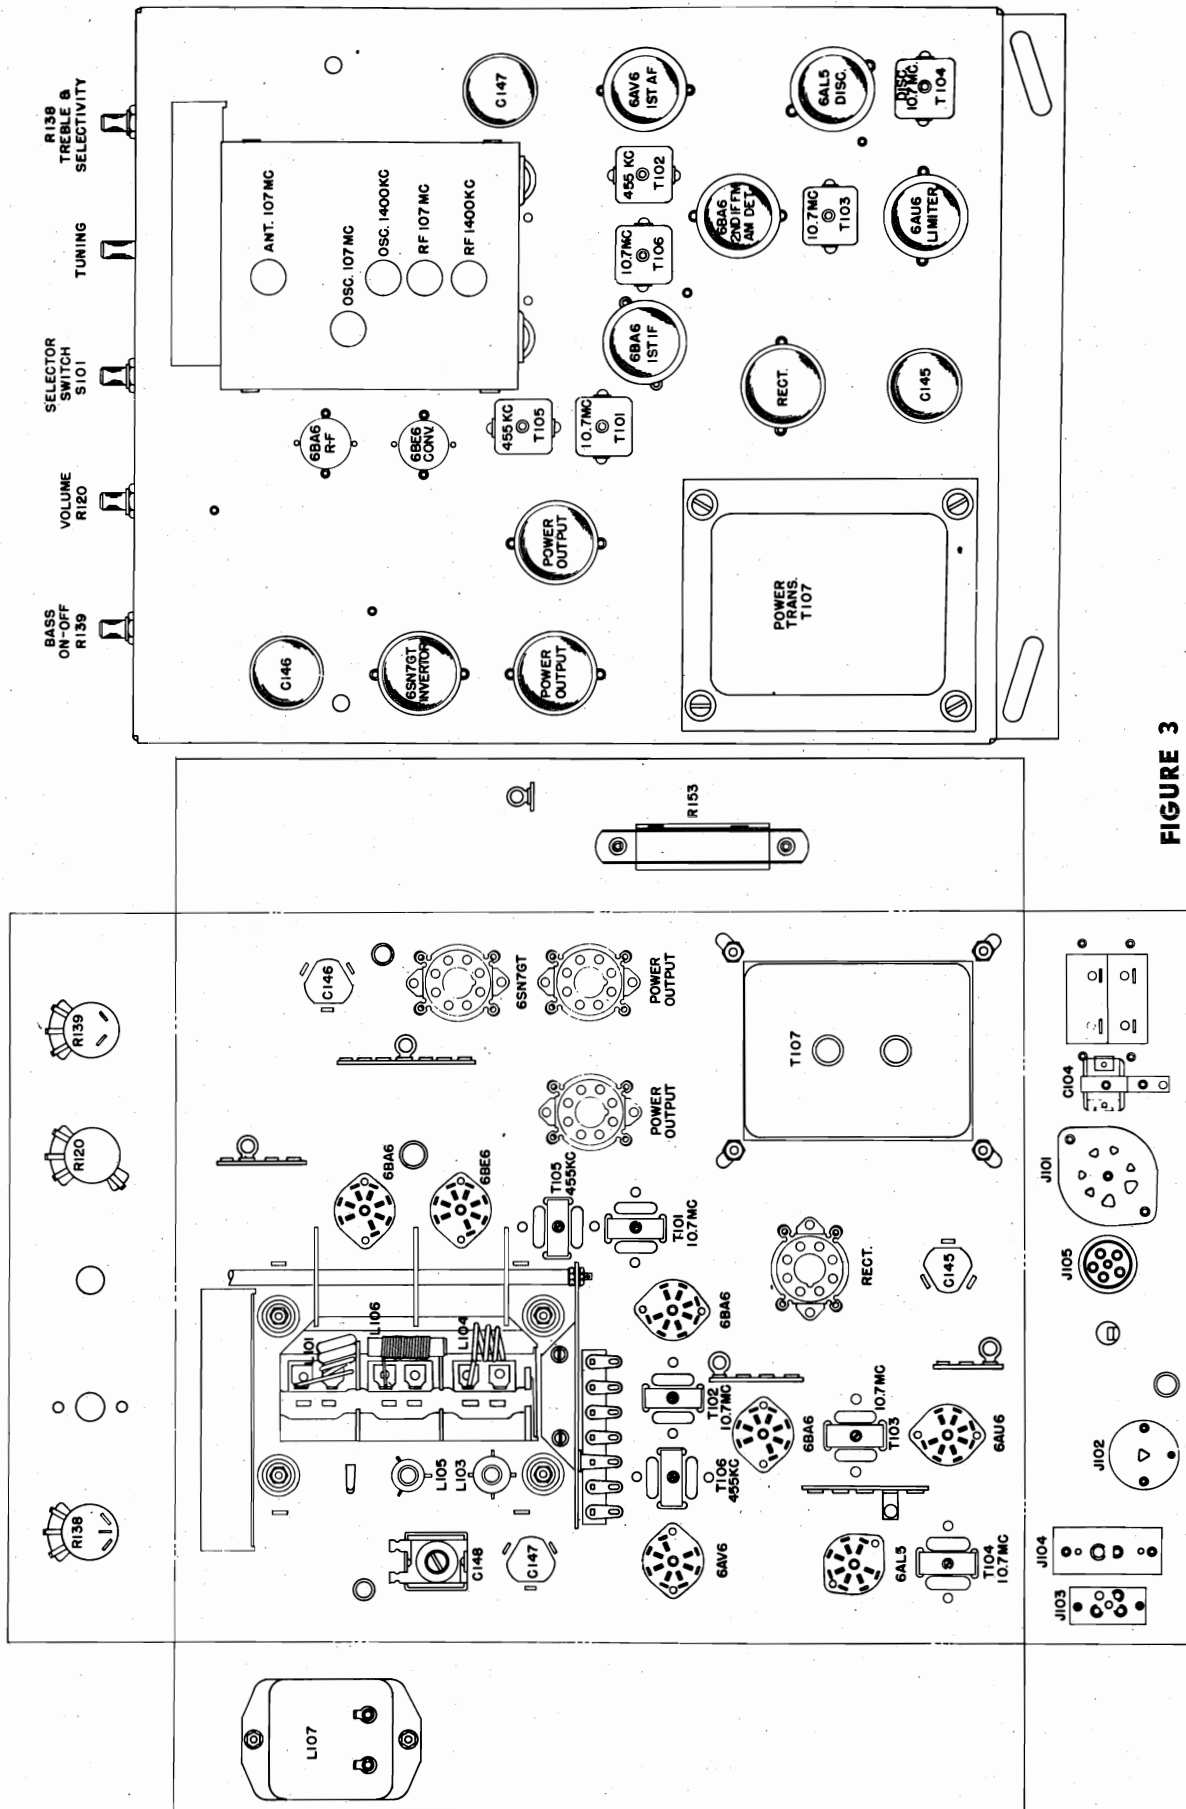

FIGURE 3
4. AM and FM i-f transformers on this model are separate and can be identified on the chassis layout diagram Figure 3.